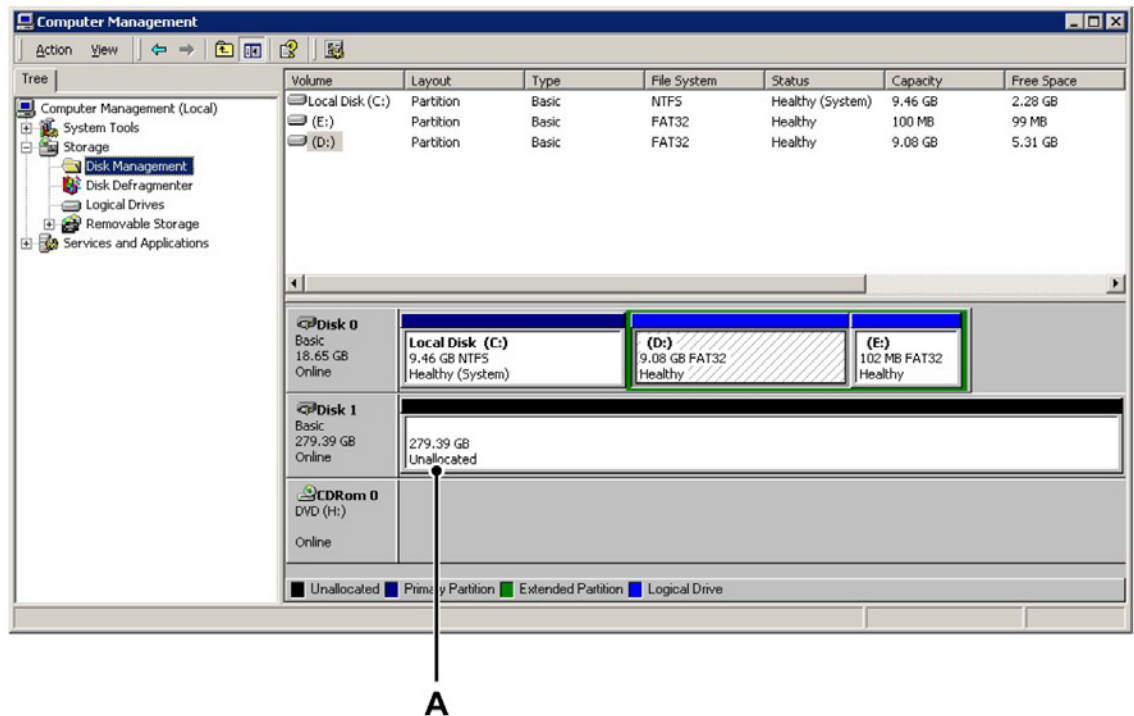

Figure E.4: Computer Management - Unallocated Space
- 5A** The SCSI disk should be visible as a disk that only has **Unallocated Space** like in the screen-shot Figure E.4.